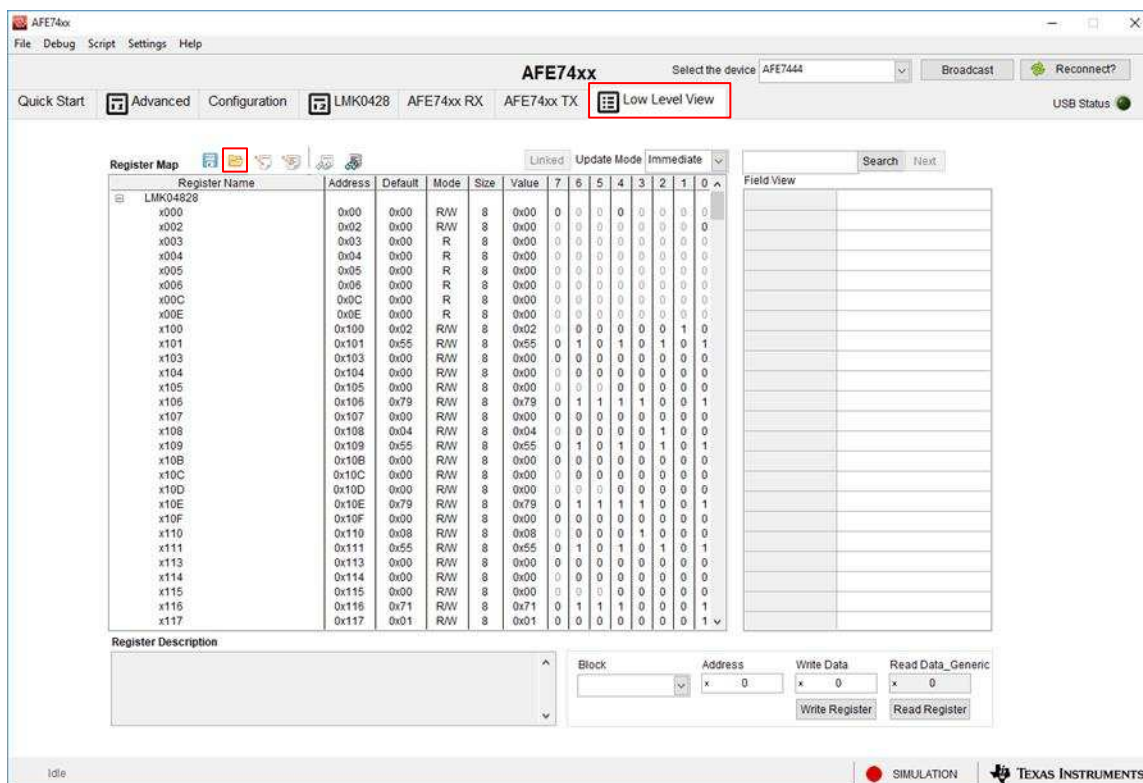

Figure 8. Low Level View Tab
9. In the *Low Level View* tab, click on the open folder icon, as shown in **Figure 8**.